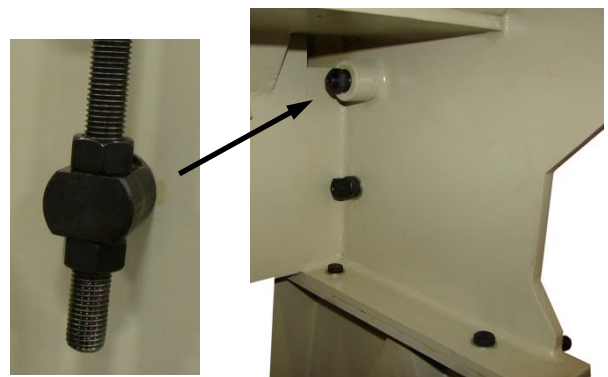

figure 12
9. Place a 16mm flat washer and an M16 hex nut onto the stud end of the pivot block. (See fig. 12). Tightening the nut and washer against the shoulder of the stud will still allow the block to pivot. Repeat this on the other side.